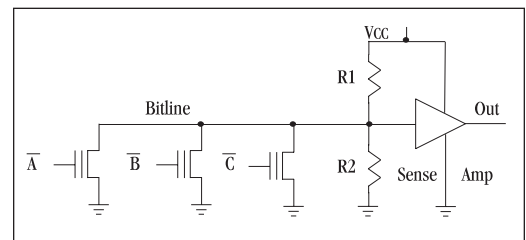

Figure 2: Simplified CPLD Programmable Structure
**Figure 2** shows a simplified structure for a programmable “AND” gate (actually, it is a NOR internally) which performs the programmable logic operations. It shows three transistors with floating gates that form a “Wired NOR” when appropriately programmed. XC9500XL devices normally have 108 transistors attached to the Bitline for each product term. The pullup and pulldown resistors (R1 and R2) attached to the Bitline are actually transistors.
R1 in **Figure 2** is actually a programmable transistor structure. R1 can be programmed to supply current to the Sense Amp input node to select between a fast ramping input signal, or a low current slower ramping signal. **Table 1** gives relative values of the current drawn by a product term depending on the value of R1 and the condition of the Bitline.